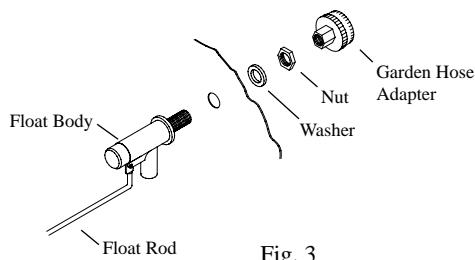

Fig. 3
• **Install float valve.** Refer to figure 3. Install the valve in the provided hole in the corner post ((R)M301A, (R)M401A) or louvered side (M201A) using the provided washer and nut. Install the included garden hose adapter to the float as shown if attaching a garden hose to the unit. A 1/4 inch water line may also be used to supply a continuous amount of water to the unit.